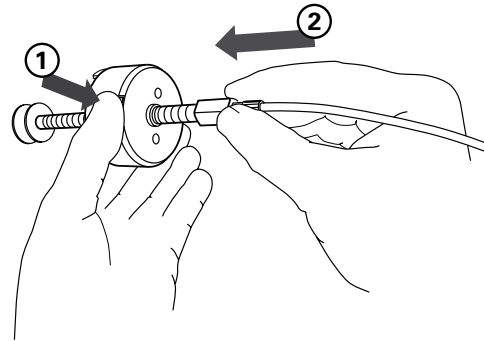

Figure 7. Press the lever and extend the plunger.
9. Press the lever on the side of the cap and fully extend the plunger (Figure 7).